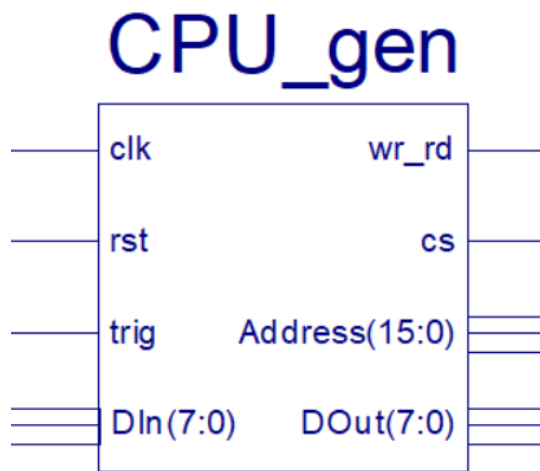

Figure 1: CPU Symbol
**Figures 1 to Figure 6** represent the individual blocks that were used in our compiled block diagram showcasing the entire Cache Controller in **Figure 7**. These symbols were created after declaring the components in our individual .VHD files in Xilinx ISE 13.4 program. After these components are declared and our code's syntax is verified, we are able to create the block by selecting the "Create Schematic Symbol" option inside the Design tab of our implementation view. After this, we create a new source file specifying that we need a new schematic file type. The program then opens up the schematic workbench and we are able to individually add each block and connect wires between the appropriate buses/links.